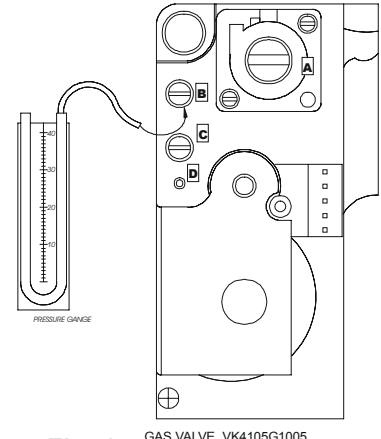

Fig. 1 GAS VALVE VK4105G1005
- insert a gauge into the pressure socket B (fig.1).
- remove the aluminium protective cap from screw A (fig.1) counter-clockwise;
- once ignited, set the "P1 MAX. HEAT" trimmer (fig.2) to the maximum and turn screw A (fig.1) on the stabiliser clockwise to increase pressure or counter-clockwise to decrease pressure (see the table below for calibration pressures);